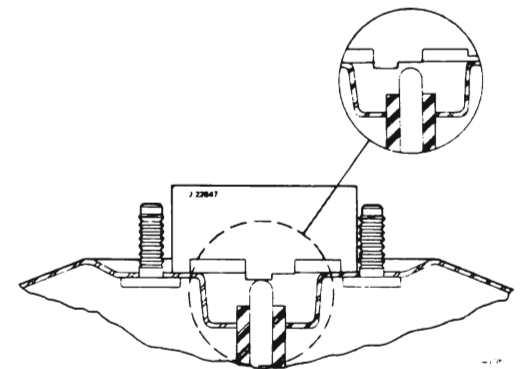

Figure 50-74 Gaging Piston Rod
6. Place Gage J-22647 over the piston rod in a position which will allow the gage to be slipped to the left or right without contacting the studs. See Figure 50-74.